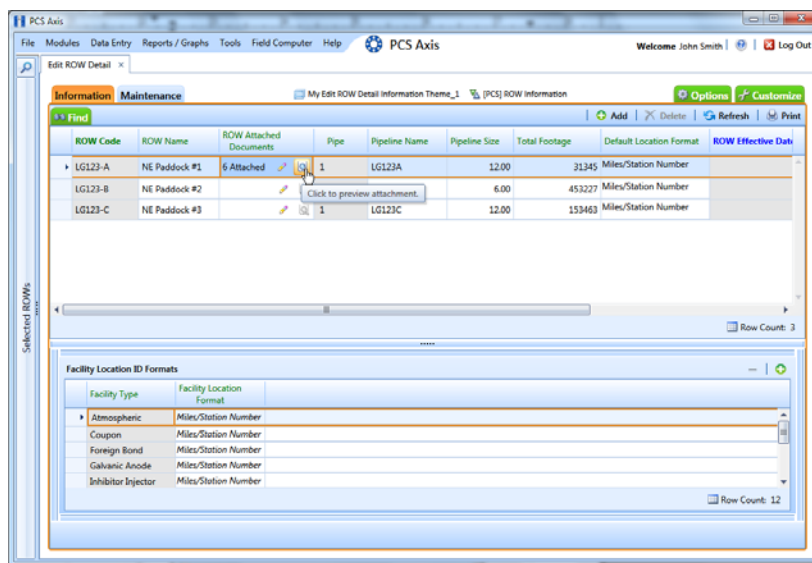

Figure 3-17. Edit ROW Detail
- 2 Click **Data Entry** > **Edit ROW Detail** to open the *Edit ROW Detail* window (Figure 3-17).